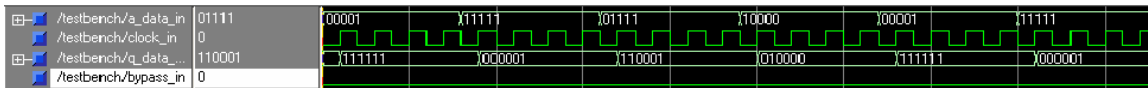

Figure 8: ModelSim Waveform
3. Your waveform should look like Figure 8.